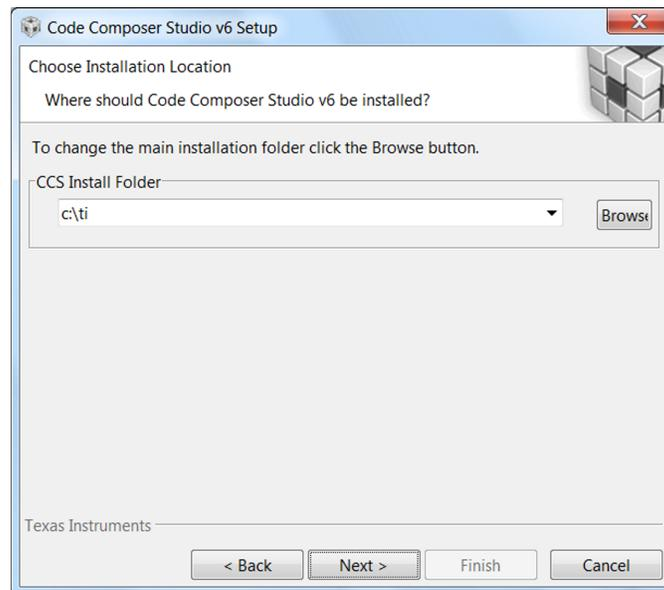

Figure 10. Default Installation Location for CCS
Step 3. Choose a destination directory. Using the default (c:\ti) removes a step in the SDK installation procedure (see Figure 10).